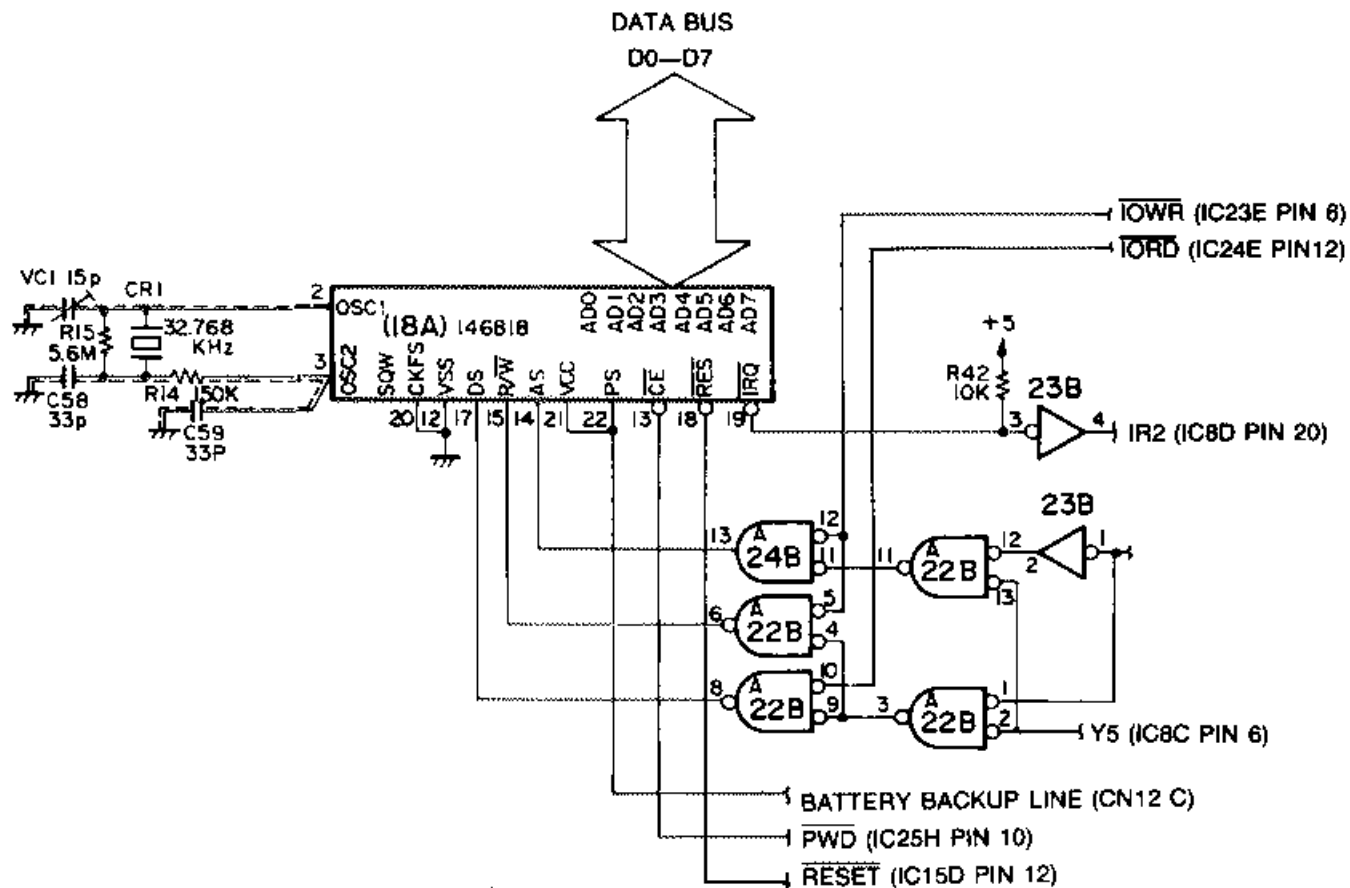

FIGURE 2-67. 146818 REAL TIME CLOCK CIRCUIT
2.3.4.6 146818 Real Time Clock (Figure 2-67)